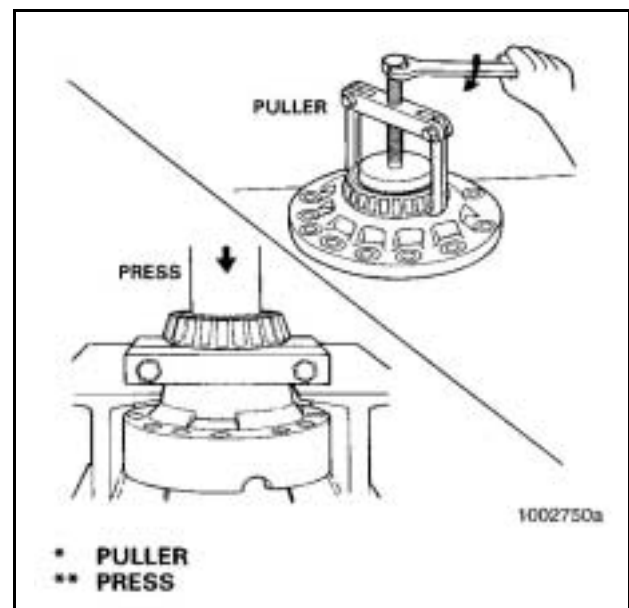

Figure 21a
8. If the differential bearings need to be replaced, remove the bearing cones from the case halves. Use a bearing puller or press. **Figure 21a.**